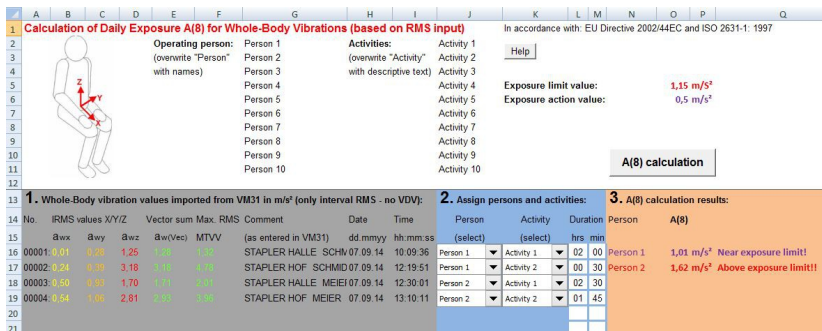

Figure 39: Daily exposure calculation in Excel
Click “A(8) calculation” or, in the case of VDV, “Daily exposure calculation” to calculate the vibration exposure (Figure 39). The result(s) will be compared with the limits stated in the EU directive 2002/44/EC and are displayed in various colors: